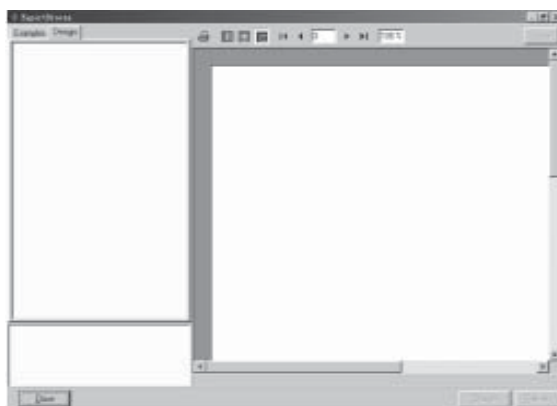
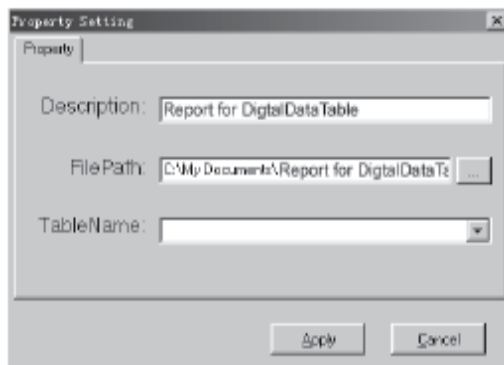
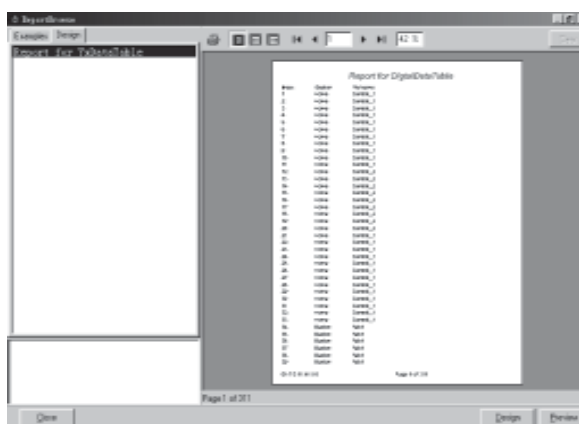

Fig. 8-21 Select the Page Key ;°Design;±
Fig. 8-24 Entering the Options
Fig. 8-25 The Page After Clicking the button ;°Apply;±
2. Design the Report: Select the page key ;°Design;±and the listing table is empty if opened for the first time, as in Fig. 8-21.
In Fig. 8-21, enter the name describing the use of the report in the position of ;°Description;±and the path and name of the report in the position of ;°FilePath;±or click the button  to open the dialogue block of selecting the files to be opened. Then click the button;°Apply2;±in Fig. 8-24. And at the same time, a new record is added to the listing table frame as in Fig. 8-25.